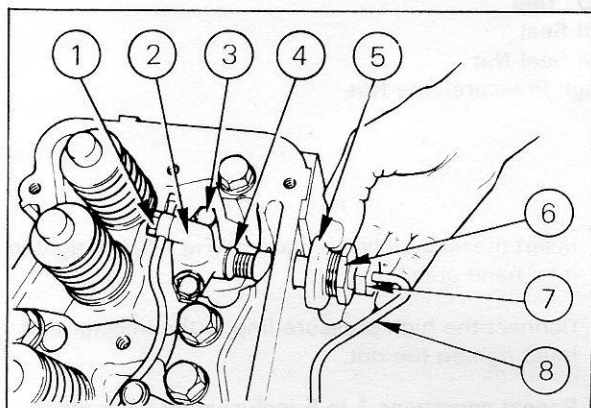

Fig. 11 - Removing Injector
6. Loosen the large oil seal nut (Fig. 11). Where necessary, remove high pressure line clamps to gain access.